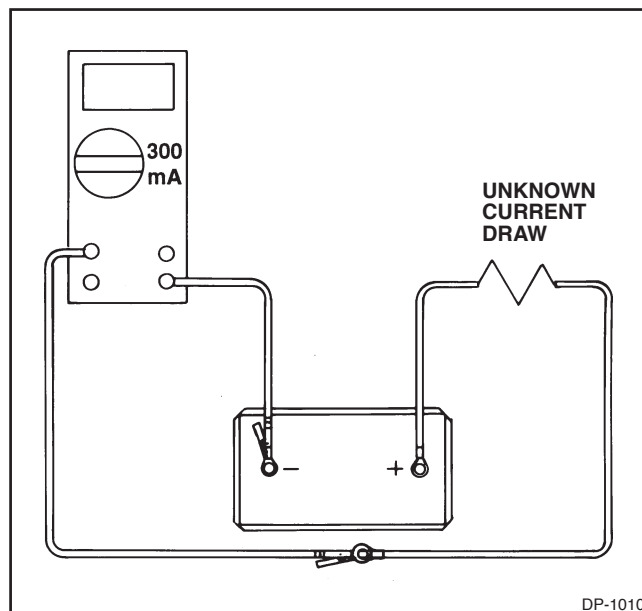

Figure 1-10. In-Line Ammeter
**1-18. AMMETER SELECTION.** With but few exceptions (See Figure 1-10) it is desirable to make ammeter readings without opening up the circuit and thus disturbing a circuit defect and prevent it from being discovered. Therefore the use of a clamp-on induction type ammeter is recommended for most of the measurements described in this manual. This type is easy to use, cannot be damaged by misconnection and will not damage the vehicle wiring. A clamp-on ammeter operates by measuring the magnetic flux produced by current flow through a conductor and translating that into amperes which are displayed on the meter readout.
2. Figure 1-10 shows an in-line digital ammeter used to measure an unknown current draw such as may result from a parasitic load. On the 10 amp scale the current would be too low to be measurable. However, with the meter on the 300 ma scale, the current draw in milliamps can be read.